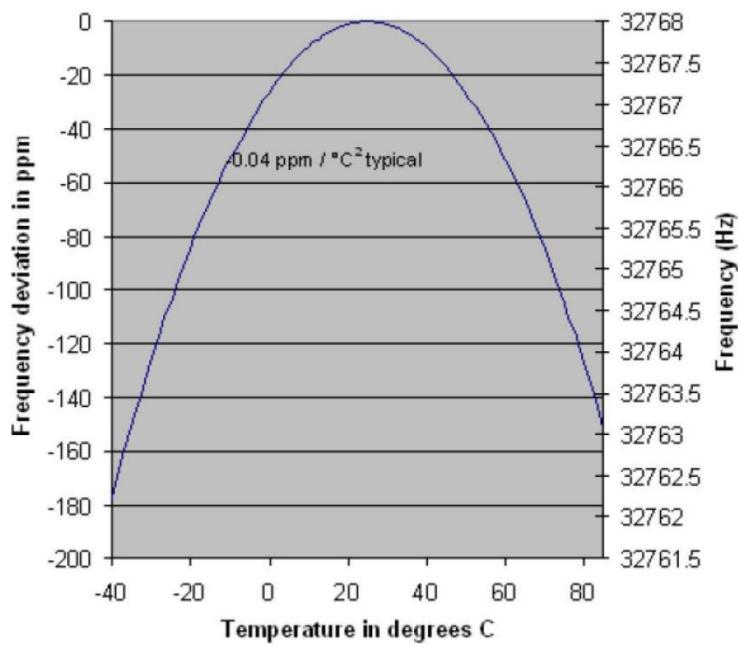

Figure 2. Crystal frequency vs. temperature.
In addition to the errors from the crystal and the load match, crystals vary from their base frequency as the ambient temperature changes. RTCs use "tuning fork" crystals, which exhibit an error over temperature, as shown in Figure 2. An error of 20ppm is equivalent to approximately 1 minute per month.
3. If possible, place a guard ring (connected to ground) around the crystal. This helps isolate the crystal from noise coupled from adjacent signals. See Figure 2 for an illustration of using a guard ring around a crystal.